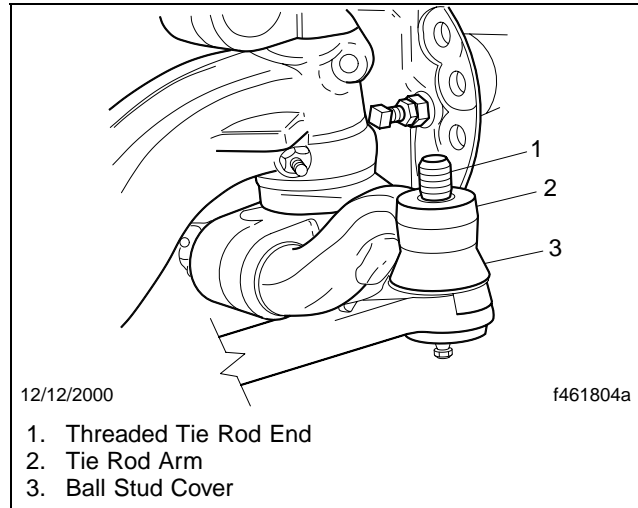

Fig. 7, Tie Rod Arm
2. Push the threaded tie rod end through the tie rod arm hole. See **Fig. 7**.